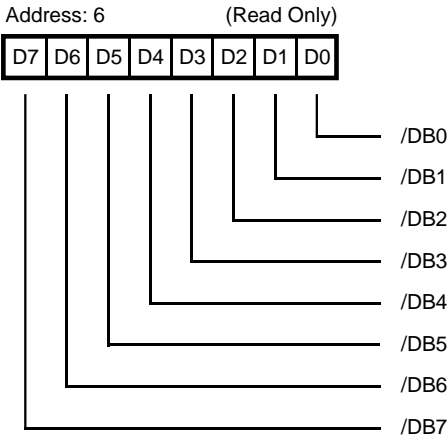

Figure 7. Input Data Register
**Input Data Register.** *Address 6 (Read Only).* The input Data Register (Figure 7) is a read-only register that is used to read latched data from the SCSI Bus. Data is latched either during a DMA Target receive operation when /ACK goes active or during a DMA Initiator receive when /REQ goes active. The DMA Mode bit (Mode Register bit 1) must be set before data can be latched in the Input Data Register. This register is read under DMA control using /RD and /DACK. Parity is optionally checked when the Input Data Register is loaded.